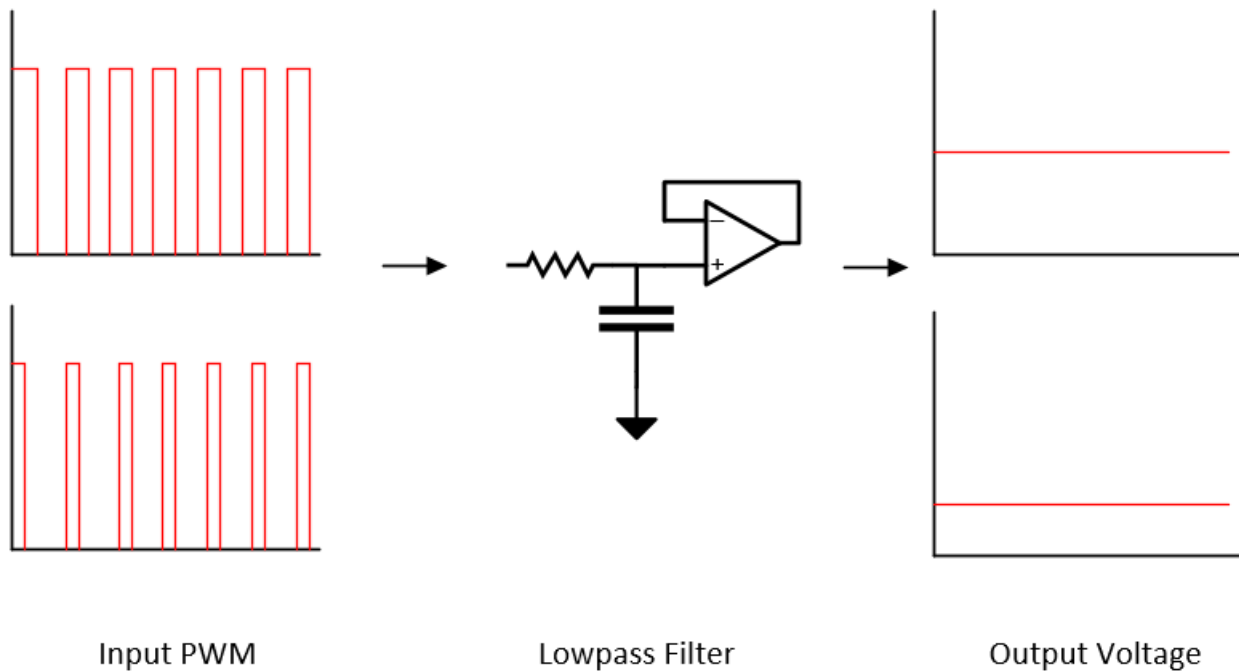

Figure 3. PWM DAC signal chain
The VDAC voltage is produced by filtering a PWM signal from the microcontroller with a resistor-capacitor (RC) filter and buffer, creating a PWM digital-to-analog converter (DAC). Figure 3 illustrates how different PWM duty cycles and a RC-buffer circuit can generate different DC voltage levels for use in the fuse-block injection circuit.